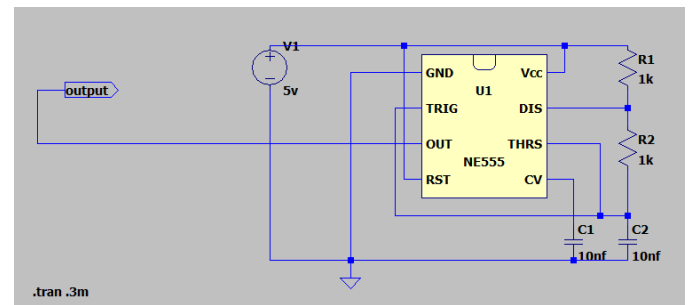

Fig. 4 LM555 timer circuit in Ltpspise
**1. Implement the LM555 in astable mode using the wiring diagram from figure 4 and observe the output.**